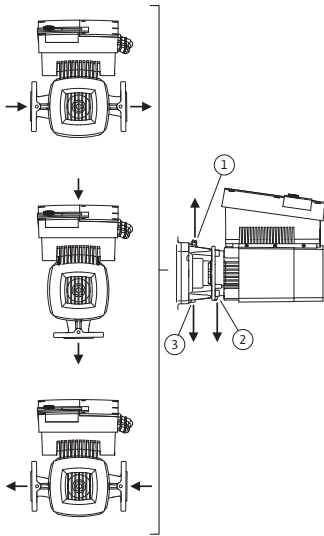

Fig. 23: Permitted installation positions with horizontal motor shaft
The permitted installation positions with horizontal motor shaft and electronic module facing up (0°) are shown in Fig. 23. The permissible installation positions with electronic module mounted on the side (+/-90°) are not shown. Any installation position is allowed except for “electronic module facing down” (-180°). Venting of the pump is only ensured when the air vent valve is pointing upwards (Fig. 23, Item 1). Condensate can only be directed away via existing drilled holes, pump lantern (Fig. 23, Item 3) and motor (Fig. 23, Item 2) in this position (0°). To do so, remove the plug from the motor flange (Fig. 7, Item 7a).
- With a horizontal motor shaft, the condensate hole must be positioned towards the bottom (Fig. 23, Item 2). If necessary, the motor must be turned accordingly.